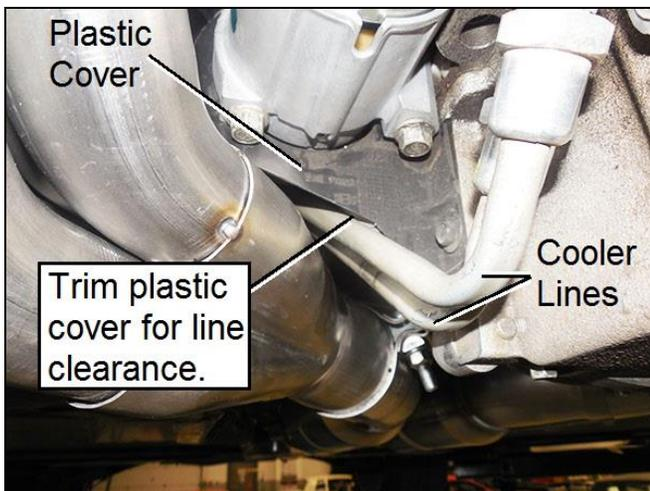

Figure 1
5. Remove the plastic cover and trim using a utility knife to allow the cooler lines to hug the bellhousing and oil pan (**Figure 1**).